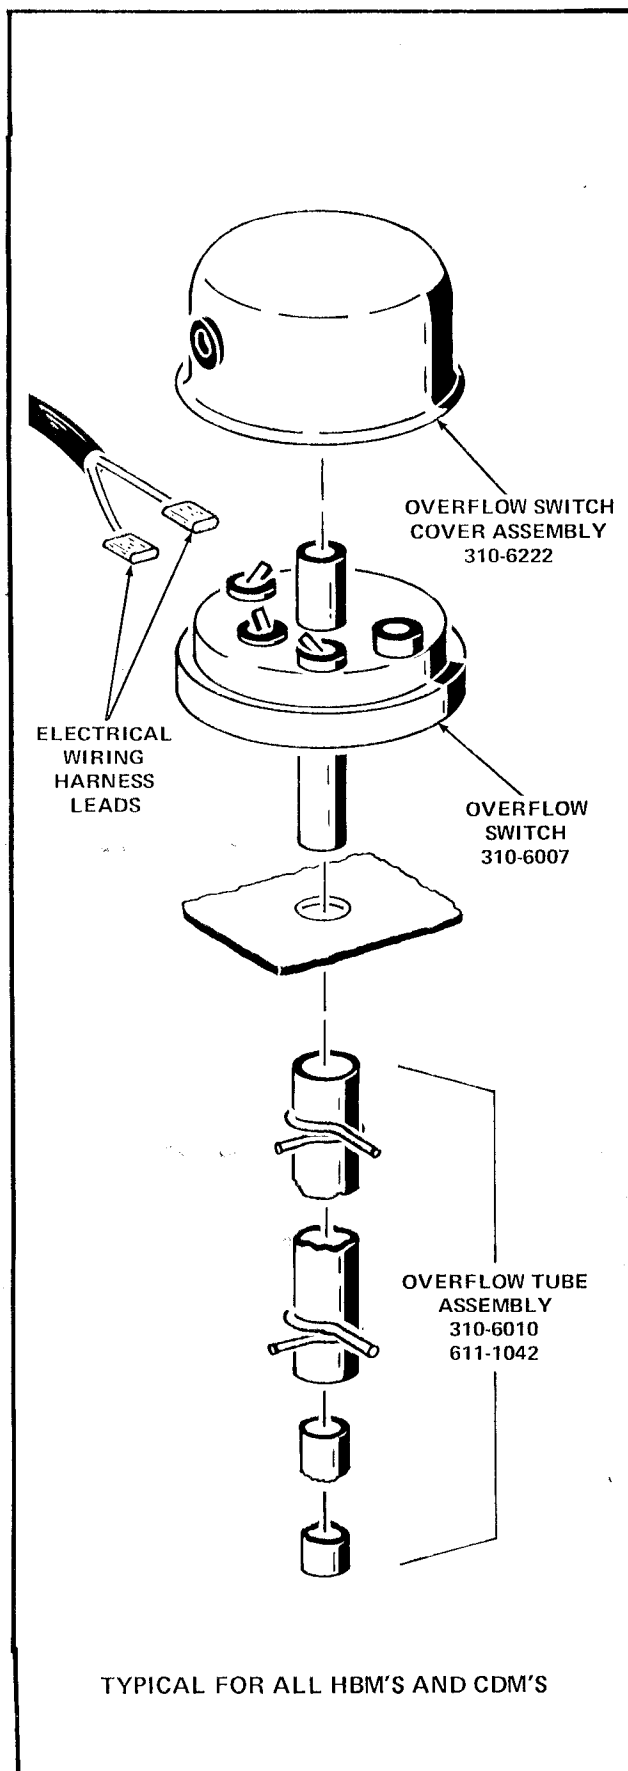

FIGURE 2
5. Remove the Overflow Switch Cover Assembly from the electrical wiring harness. See Figure 2.
6. Remove the Hose Clamp, which attaches the Tube Assembly to the base of the Overflow Switch; separate the Tube Assembly from the Switch and remove both parts from the Cabinet. See Figure 2.